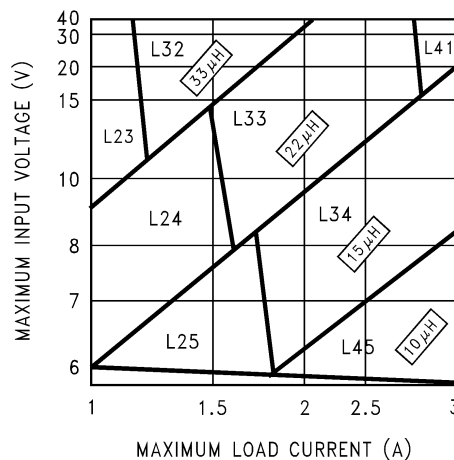
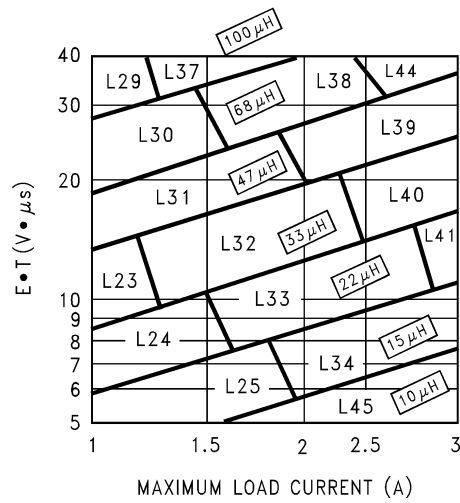

Figure 21. LM2670-3.3
Figure 24. LM2670-ADJ
Step 3: Determine the inductor required by using one of the four nomographs, Figure 21 through Figure 24. Table 1 provides a specific manufacturer and part number for the inductor.
Step 5: Determine an input capacitor from Table 8 or Table 9 for fixed output voltage applications. Use Table 3 or Table 4 to find the specific capacitor type. For adjustable output circuits select a capacitor from Table 3 or Table 4 with a sufficient working voltage (WV) rating greater than $V_{in\ max}$, and an rms current rating greater than one-half the maximum load current (2 or more capacitors in parallel may be required).
Step 3: Use the nomograph for the 3.3V device, Figure 21. The intersection of the 16V horizontal line ($V_{in \text{ max}}$) and the 2.5A vertical line ($I_{load \text{ max}}$) indicates that L33, a 22 μ H inductor, is required.
Step 3: To use the nomograph for the adjustable device, Figure 24, requires a calculation of the inductor Volt•microsecond constant ($E \cdot T$ expressed in $V \cdot \mu\text{S}$) from the following formula:
Using Figure 24, the intersection of 27V• μS horizontally and the 2A vertical line ($I_{load \text{ max}}$) indicates that L38, a 68 μH inductor, should be used.
When using the adjustable device in low voltage applications (less than 3V output), if the nomograph, Figure 24, selects an inductance of 22 μH or less, Table 12 and Table 13 do not provide an output capacitor solution. With these conditions the number of output capacitors required for stable operation becomes impractical. It is recommended to use either a 33 μH or 47 μH inductor and the output capacitors from Table 12 or Table 13.